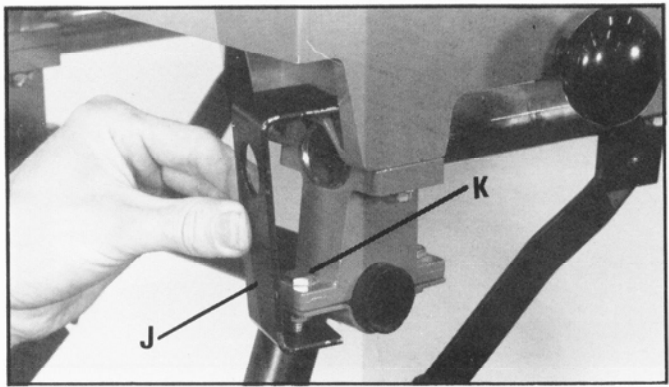

Fig. 6
2. Place table extension lock bracket (J) in position, as shown in Fig. 6, making sure bottom end of screw (K) is inserted in hole in bottom of lock bracket (J).